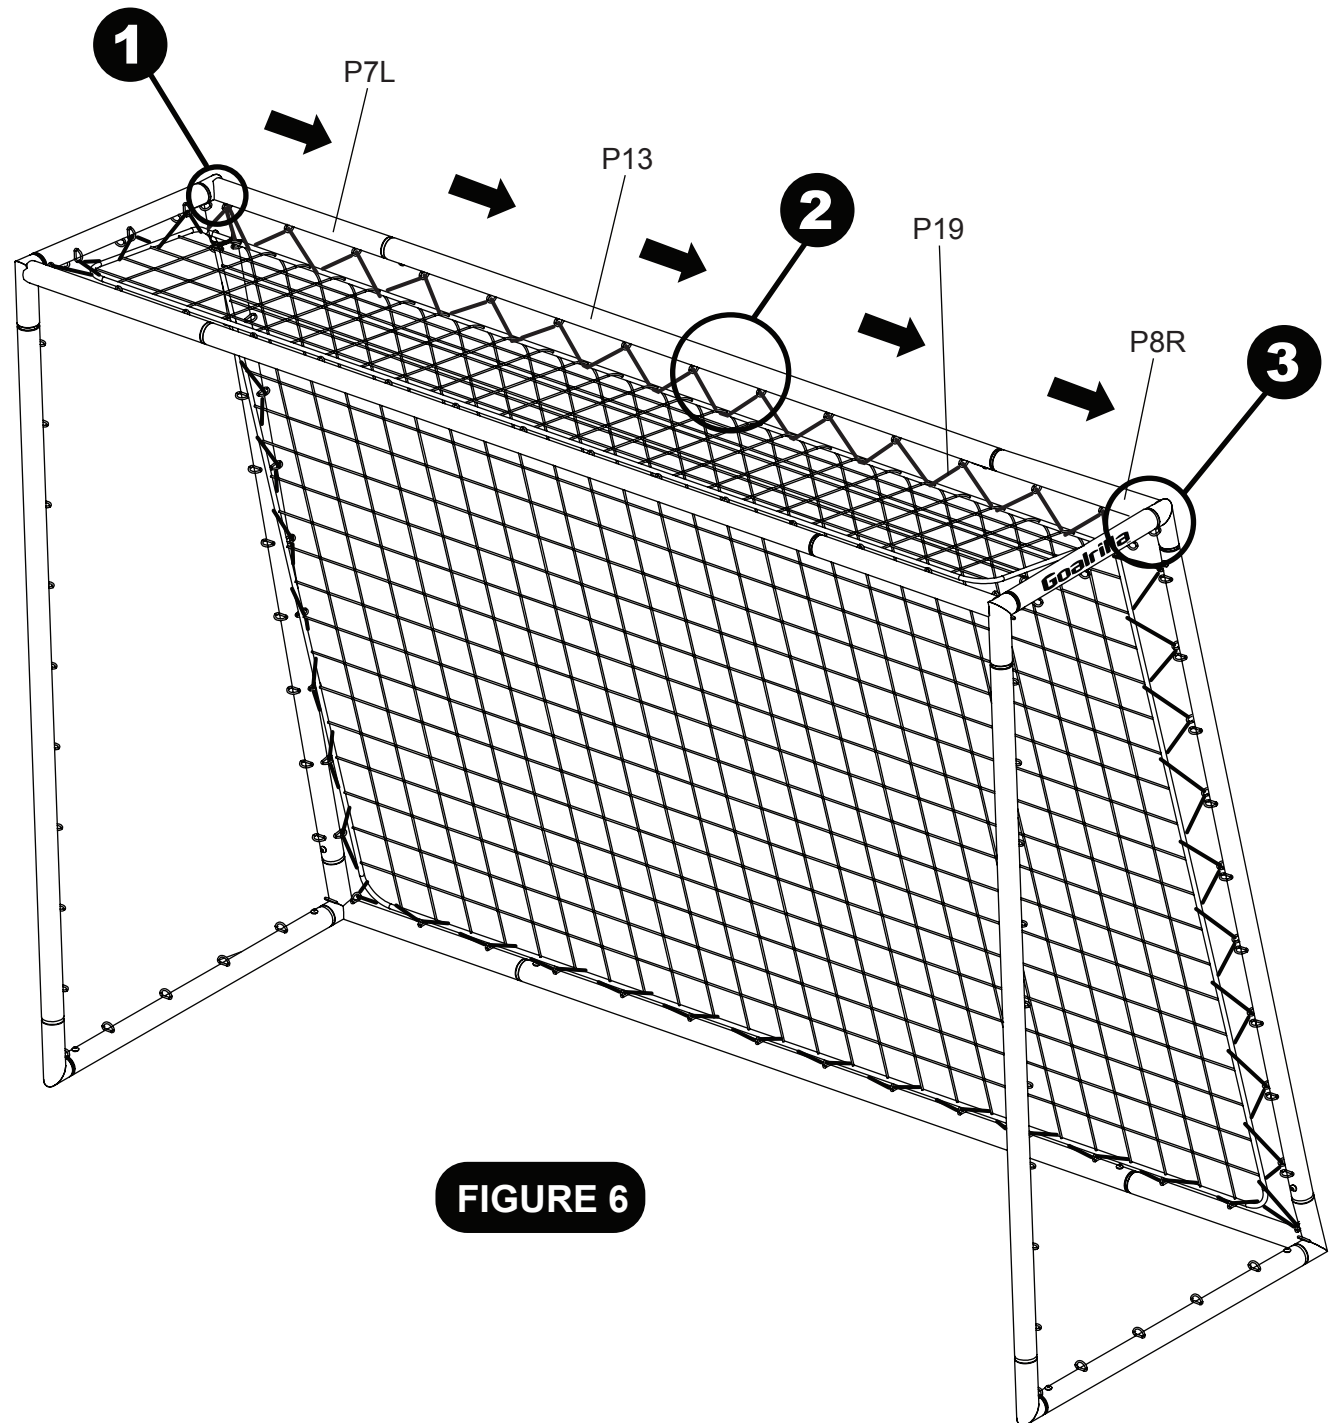

FIGURE 6
With the help of another adult, attach **P19** Bungee Cord through the top back welded D-Rings on tubes **P17**, **P13**, **P8R** and Net **P15** as shown in **FIGURE 6**.
1. Tie off one end of **P19** Bungee Cord using a double knot on the welded D-Ring located at the very corner of **P7L** Tube as shown in **FIGURE 6**.
2. Carefully thread **P19** Bungee Cord through **every other hole** in net and every welded D-Ring on **P7L**, **P13** and **P8R** Tubes as shown in **FIGURE 6**.